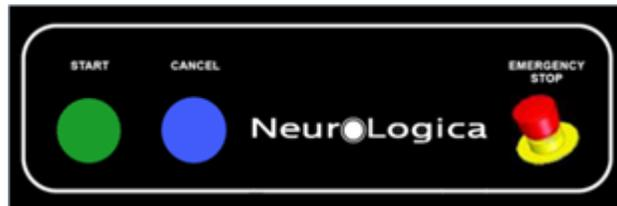

Figure 7: Close-up of the scanner control panel and the E-STOP button
- The **START** button is activated when the patient is registered, the protocol is selected, the **Begin** button is clicked, and the protocol is prepared. The **START** button on the scanner's control panel illuminates when the scanner is ready to begin. See Figure 7 on page 65 to identify the **START** button.